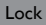

Figure 12.7c
2. While the system attempts to connect you will see the, “Spa Wi-Fi Setup in-progress,” Figure 12.7b. When the connection is done the display will read, “Spa Wi-Fi Setup Successfully Connected,” Figure 12.7c.